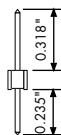

fig. 2: HDRMJL & HDRMJR header pin (to scale).
2. The shorter headers — HDRMJL & HDRMJR, with 0.318" head x 0.235" tail — mate with the jack PCB (fig. 2).